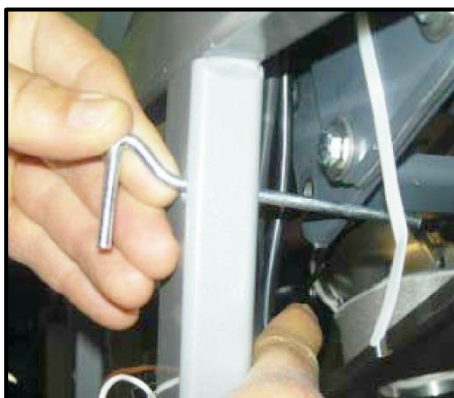

Figure 8-22: Lift Pins Inserted into Lift Holes, Left and Right Sides (Step 17)
14. Refer to Figure 8-20, then lift up the front of the burner assembly and raise up until the two lift pins can be inserted (Figure 8-22) at the left and right sides in order to hold up the burner assembly.